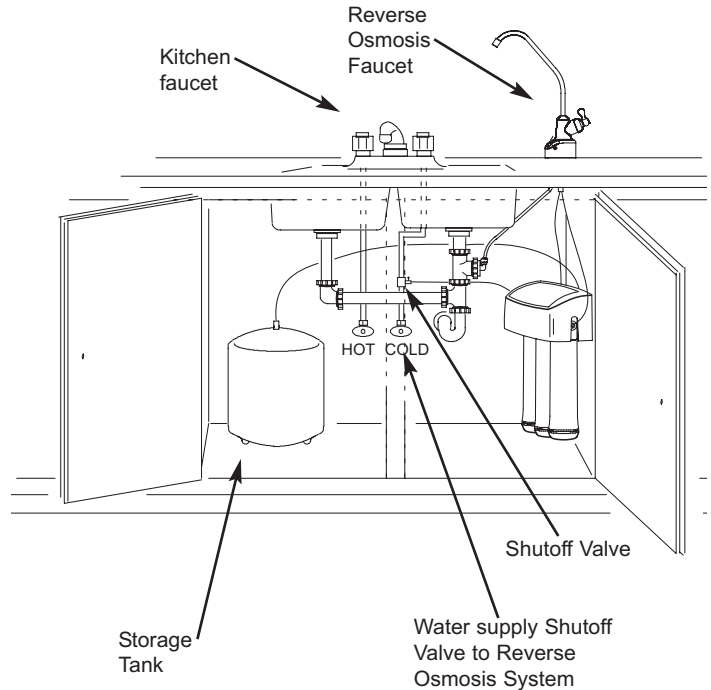

FIG. 24
1. Open the water supply valve to the Reverse Osmosis System. See Fig. 24.
2. Open the main water supply valve and several house faucets. This will purge air from the house plumbing and system. Close faucets when water runs smooth. See Fig. 24.